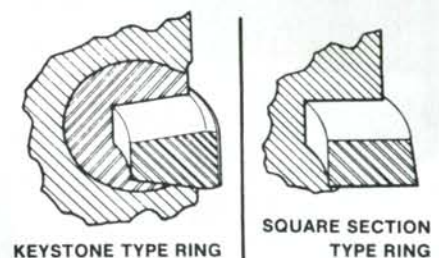

Fig. 55—Illustration of two types of compression rings. Refer to text for particular type ring used.
58. Engines are equipped with pistons having two compression rings and one oil control ring. Fig. 55 shows cross-sectional view of ring types used.